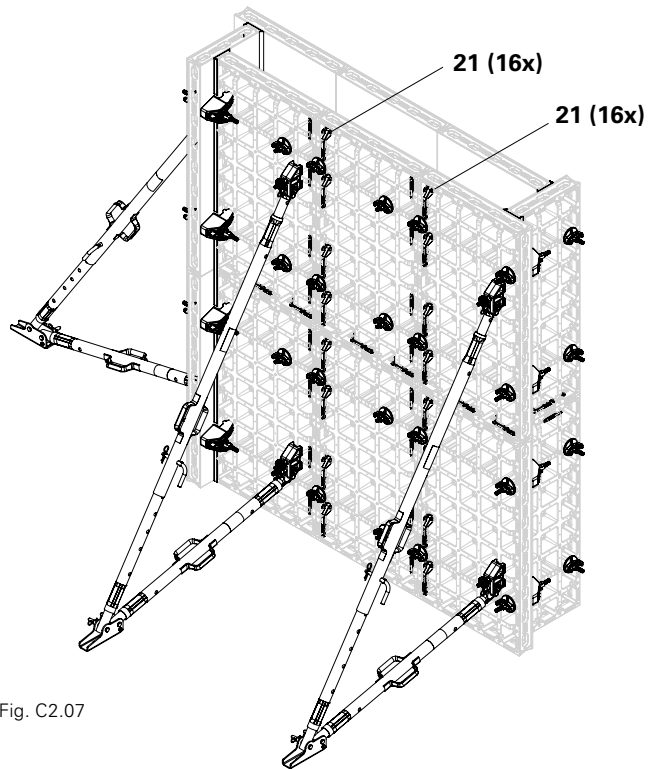

Fig. C2.07
- Connect every vertical panel joint from both sides with 4 DUO couplers (**21**) each. (Fig. C2.07)